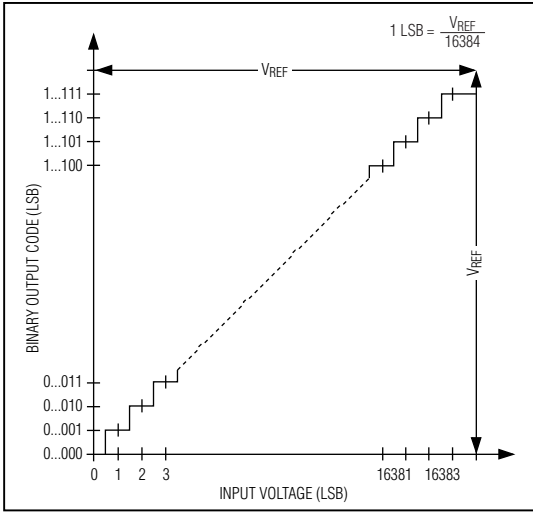
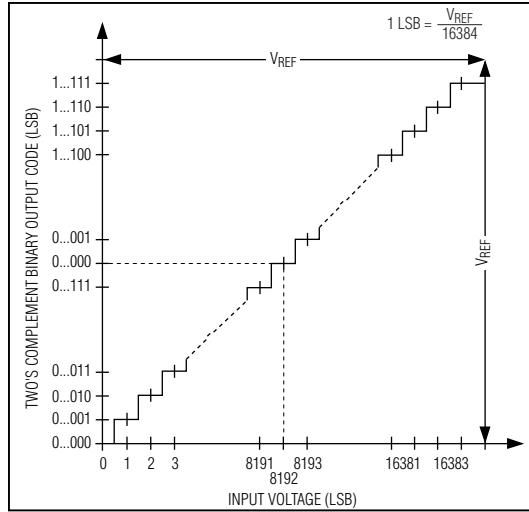

Figure 14. Unipolar Transfer Function
Figure 15. Bipolar Transfer Function
In unipolar input mode, the digital output is straight binary (Figure 14). For bipolar input mode, the digital output is two's complement binary (Figure 15). Data is clocked out on the falling edge of SCLK in MSB-first format.
Output data coding for the MAX1146-MAX1149 is binary in unipolar mode and two's complement binary in bipolar mode with $1 \text{ LSB} = (V_{REF}/2^N)$, where N is the number of bits (14). Code transitions occur halfway between successive-integer LSB values. Figure 14 and Figure 15 show the input/output (I/O) transfer functions for unipolar and bipolar operations, respectively.